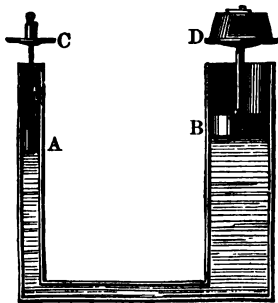
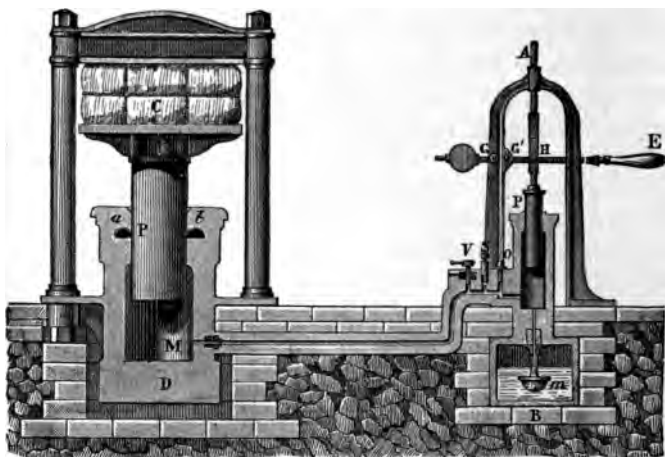

FIG. 41.—THE HYDROSTATIC PARADOX.
FIG. 42.—THE HYDROSTATIC PRESS.
135. The transmitted Pressure proportional to the Surface.—In Fig. 41, if the small tube is 1 inch square and the large one 4, then the area of the water pressing on the large piston is 16 times¹ as great as upon the small one, and with an upward pressure of 1 pound upon each square inch of B, the whole upward pressure then is 16 pounds. This is called the hydrostatic paradox, because it seems paradoxical (or beyond belief) that 1 pound should balance 16 pounds.
136. The Hydrostatic Press.—If more than a pound be placed upon C (Fig. 41), the piston A will be forced down and D will be raised. In this way a small weight can be made to raise a very large one. This is the principle of the hydrostatic press, which is shown in Fig. 42. In order that all of the parts, and the manner of working, may be seen, the figure represents the press cut open through the middle, or *in section*, as this is called. The raising of the piston *p* sucks up water from *m*. When the handle HE is pushed down again, a valve keeps the water from going back into *m*, and it is forced through the narrow tube into M, and the large piston P is raised and pressed against the cotton-bale C with great force. If *p* is 1 inch in diameter, and P 10 inches, for every pound down upon *p* there is a pressure of 100 pounds upon the cotton-bale. This force is usually further increased by using a lever, GE (which class?), to increase the pressure upon *p*.
¹ About 10 per cent. of the power is usually lost by friction. The principle of the hydrostatic press has been known for more than two hundred years, but no way of making the joints tight enough to resist the enormous pressure of the water was found until Bramah, an English inventor, about the beginning of the present century, invented a *curved leather collar* for this purpose, shown in Fig. 42, at *a* and *b*.
Exercises.—1. If in the vessel shown in Fig. 41 one side of A is 2 inches and one side of B 12 inches, and if 5 pounds were put upon C, what weight upon D would it balance? *Ans.* 180 pounds.
3. If GE (Fig. 42) is 8 feet and GH 6 inches, what weight will be balanced by 50 pounds at the end of the handle? *Ans.* 43,200 pounds.